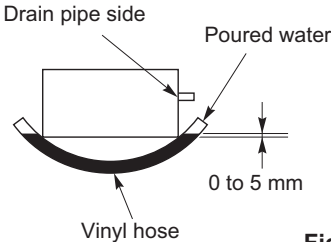

Fig. 2-167
- (5) The unit should be adjusted using water level or as shown in Fig. 2-167 so that the drain pipe side is slanted 5 mm lower than the opposite side.
- (6) After completing the adjustment of the clearance, fasten all upper and lower suspension nuts tightly.